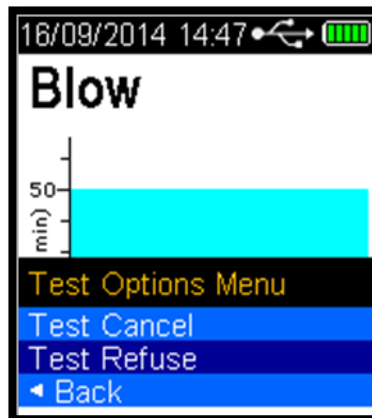

Figure 24 Test Refuse Displayed
- With the Blow screen displayed, Press the Up and Down buttons simultaneously. The Test Options Menu and Test Cancel is displayed (Refer Figure 24).
- Press the Down button to highlight Test Refuse (Refer Figure 24).